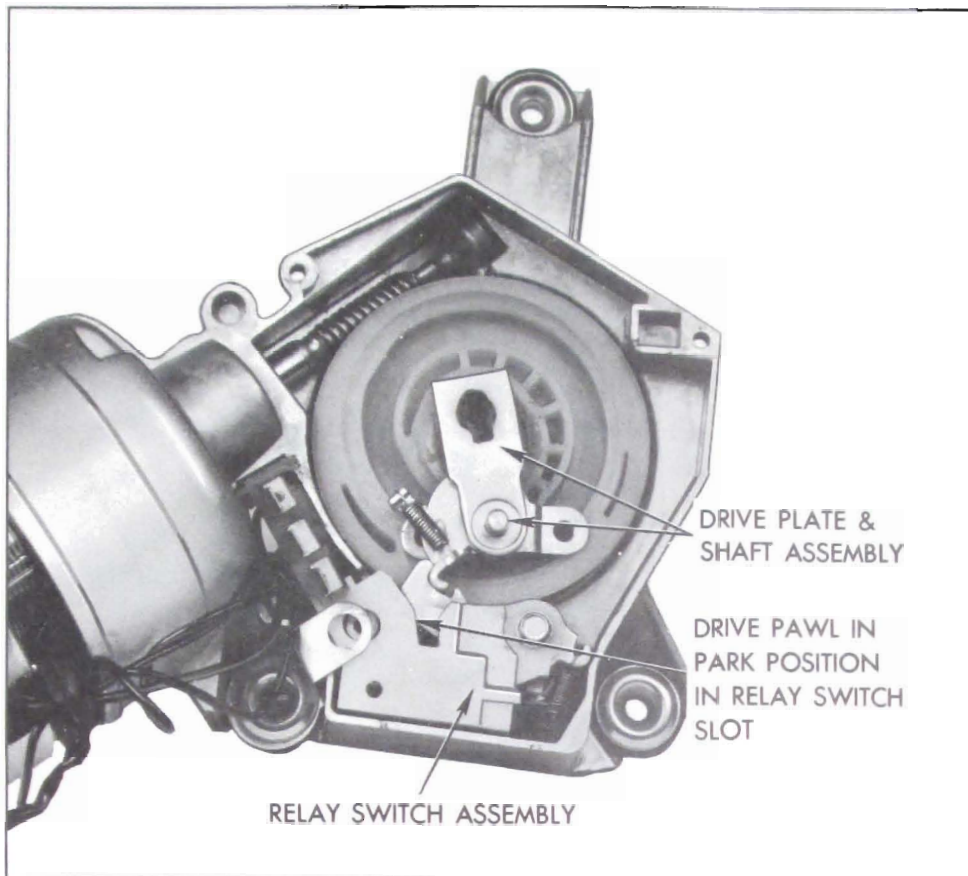
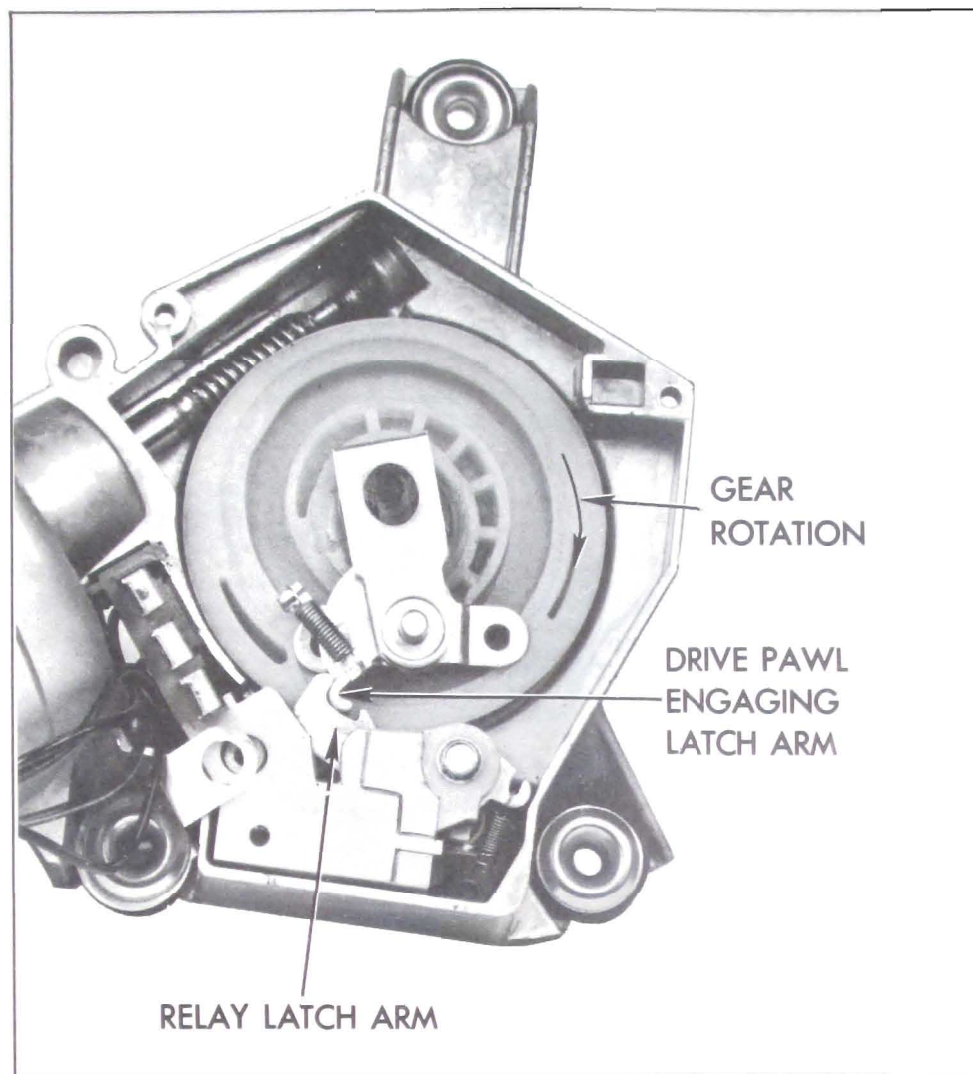

Figure 10-109—Wiper Mechanism in Park Position
Figure 10-113—Wiper Mechanism During Parking Operation
1. Wiper Off. In the off position, the wiper gear drive pawl is located in a slot in the relay switch assembly. See Figure 10-109. In this position it is pushing against a spring loaded latch arm. The latch arm, in turn, is pushing against a flexible switch contact which holds the switch contacts open. Figure 10-109 shows the wiper gear mechanism in the "park" or "off" position.
When the wiper motor first starts, only the gear rotates. The other gear assembly parts (drive pawl, lock pawl, drive plate and shaft, plus the crank arm) are unlocked from the gear and are prevented from rotating with the gear because the drive pawl extends into the magnet switch slot. Refer to Figure 10-109.
The relay switch contacts are still closed at this stage of operation, so the circuit to the wiper motor is still completed. Thus the wiper motor and gear mechanism continues to run. The continuing rotation of the gear assembly causes the drive pawl to engage the latch arm. See Figure 10-113. This action unlocks the drive pawl, lock pawl, drive plate and shaft assembly, and crank arm from the gear which prevents them from rotating with the gear. However, since the relay switch contacts are still closed, the motor continues to run and the gear continues to rotate. Since the drive shaft extends through the gear shaft off center a cam action results. The
resulting cam action causes the drive pawl to move into the relay switch slot. See Figure 10-113. As the drive pawl moves into the switch slot it pushes against the latch arm which, in turn, opens the switch contacts. This action opens the circuit to the wiper motor and the wiper motor stops. Refer to Figure 10-109 for wiper gear mechanism in full park or off position.